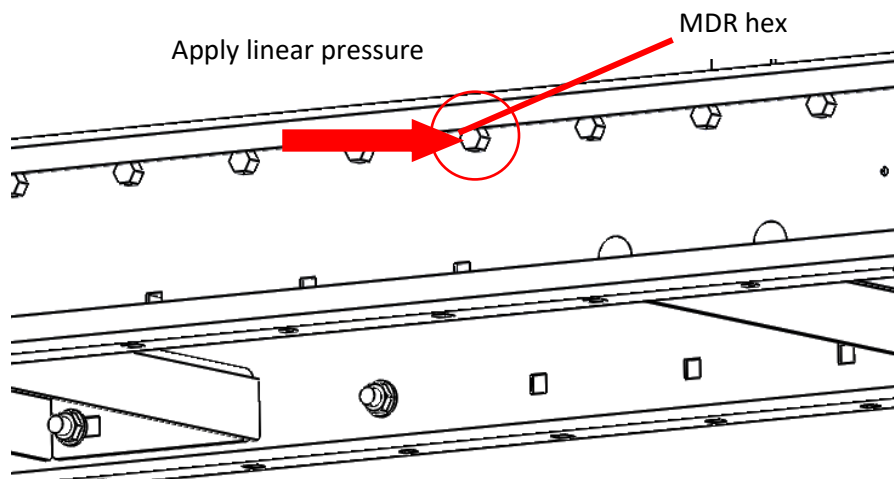

Figure 7: MDR Removal-2
3. Apply pressure on the end of the hex shaft on the band side with a small diameter punch or similar tool until the shaft clears the frame. Be careful NOT to apply a side load to the hex shaft. (Refer to Figure 7)
6. Once MDR has been reached, apply pressure on the end of the hex shaft opposite the MDR cable using a small diameter punch or similar tool until the shaft clears the frame. Be careful NOT to apply a side load to the hex shaft. (Refer to Figure 7)